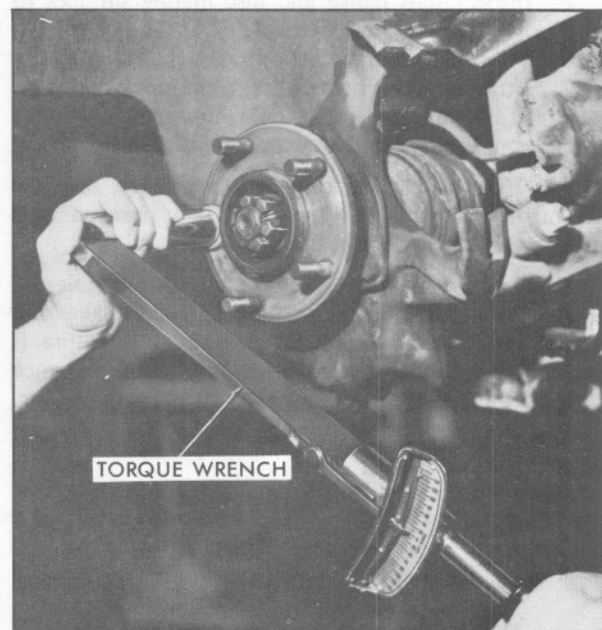

Fig. 3-7 Installing Stud (E-Car Front)
3. Torque nut to 140 foot-pounds, Fig. 3-7.